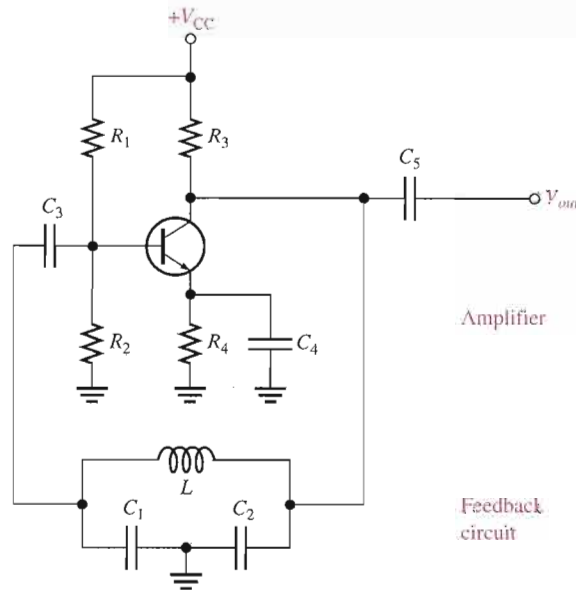

FIGURE 16–16
One basic type of resonant circuit feedback oscillator is the Colpitts, named after its inventor—as are most of the others we cover here. As shown in Figure 16–16, this type of oscillator uses an LC circuit in the feedback loop to provide the necessary phase shift and to act as a resonant filter that passes only the desired frequency of oscillation.
Figure 16–17 shows that the circulating tank current is through both C_1 and C_2 (they are effectively in series). The voltage developed across C_2 is the oscillator's output voltage (V_{out}) and the voltage developed across C_1 is the feedback voltage (V_f), as indicated. The expression for the attenuation (B) is
A FET can be used in place of a BJT, as shown in Figure 16–19, to minimize the loading effect of the transistor’s input impedance. Recall that FETs have much higher input impedances than do bipolar junction transistors. Also, when an external load is connected to the oscillator output, as shown in Figure 16–20(a), f_r may decrease, again because of a reduction in Q . This happens if the load resistance is too small. In some cases, one way to eliminate the effects of a load resistance is by transformer coupling, as indicated in Figure 16–20(b).
◀ **FIGURE 16–19**
◀ **FIGURE 16–20**
- (a) Determine the frequency for the oscillator in Figure 16–21. Assume there is negligible loading on the feedback circuit and that its Q is greater than 10.